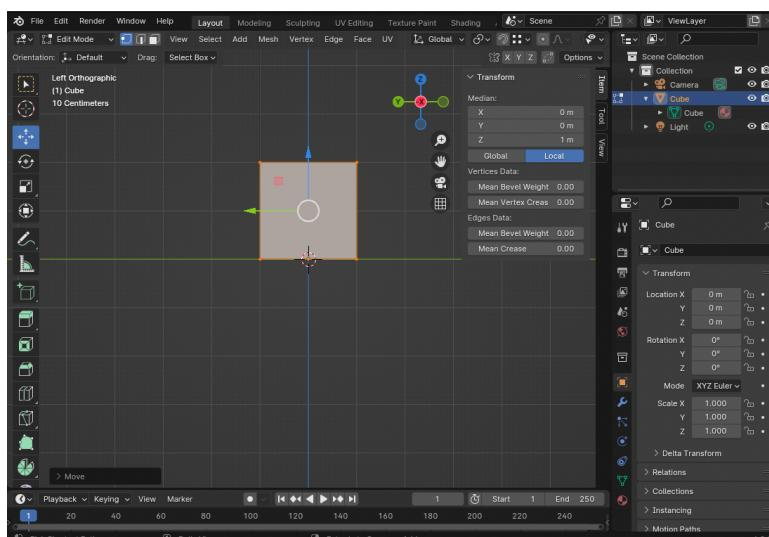

Figure 1.3: Moving object in *Edit mode* to change pivot point location.
3. Set its pivot in the center of the lower base of the cube (see Fig. 1.3):